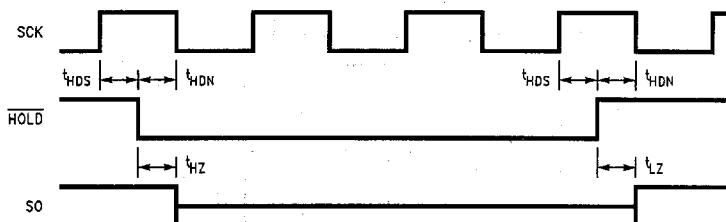

FIGURE 4.  $\overline{HOLD}$  Timing
**HOLD:** The  $\overline{HOLD}$  pin is used in conjunction with the  $\overline{CS}$  to select the device. Once the device is selected and a serial sequence is underway,  $\overline{HOLD}$  may be forced low to suspend further serial communication with the device without resetting the serial sequences. Note that  $\overline{HOLD}$  must be brought low while the SCK pin is low. The device must remain selected during this sequence. To resume serial communication  $\overline{HOLD}$  is brought high while the SCK pin is low. Pins SI, SCK, and SO are at a high impedance state during  $\overline{HOLD}$ . See Figure 4.